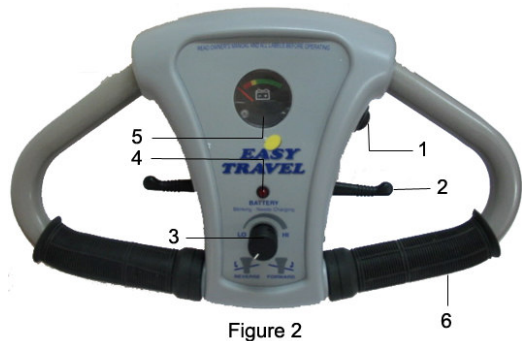

Figure 2
3.2. Control Panel – (Figure 2)